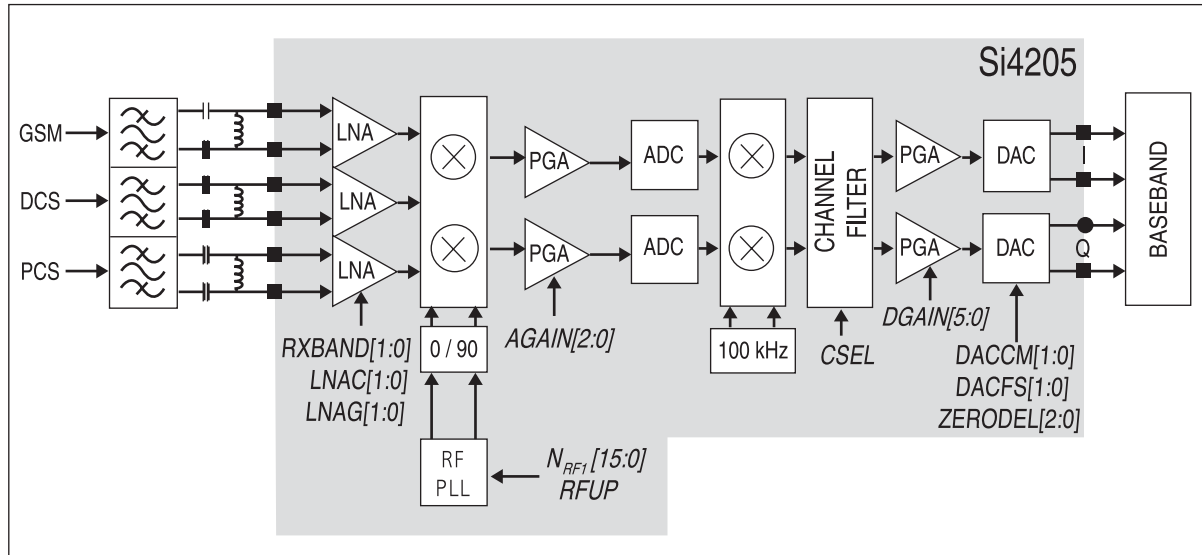

Figure 3-2 SI4205 RECEIVER PART
The LNA inputs are matched to the 150Ω balanced output SAW filters through external LC matching networks. The LNA gain is controlled with the LNAG[1:0] and LNAC[1:0] bits in register 05h (Figure 3-2).
B. Intermediate frequency (IF) and Demodulation
A quadrature image-reject mixer downconverts the RF signal to a 100KHz intermediate frequency (IF) with the RFLO from the frequency synthesizer. The RFLO frequency is between 1737.8 to 1989.9 MHz, and is internally divided by 2 for GSM 850 and E-GSM 900 modes. The mixer output is amplified with an analog programmable gain amplifier (PGA), which is controlled with the AGAIN[2:0] bits in register 05h (Figure3-2). The quadrature IF signal is digitized with high resolution A/D converters (ADCs).